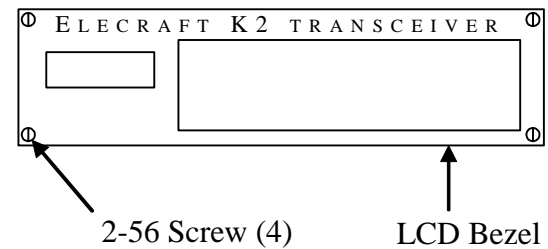

Figure 5-15
- Position the clear plastic LCD bezel over the LCD and bargraph holes as shown in Figure 5-15. The bezel goes on the *outside* of the panel.
- Secure the bezel with four 2-56 screws (stainless steel) as shown in Figure 5-15. **Tighten the 2-56 screws only the amount needed to hold the bezel to the front panel. Over-tightening may crack the bezel or strip the threaded holes in the panel.**